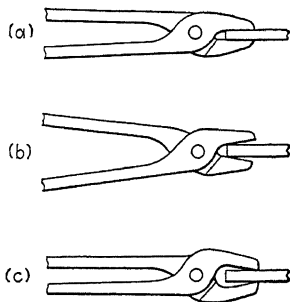

FIG. 246.—Holding work in tongs. *a*, Right; *b*, wrong; *c*, wrong.
**299. Fitting Tongs.**—This is a matter of *safety first*. With faulty tongs (*b*, and *c*, Fig. 246) the work is likely to fly out, with consequent serious injury to the smith or someone near by. Use tongs of approximately the right size, and *be sure they are properly fitted*. To fit the tongs, heat the jaws red hot, and hammer them tight on the work, as in *a*, Fig. 246. To keep the handles the right distance apart in fitting the jaws, pinch a suitable piece of steel between them close to the joint. If the handles are too far apart, bend them by hammering close to the joint.